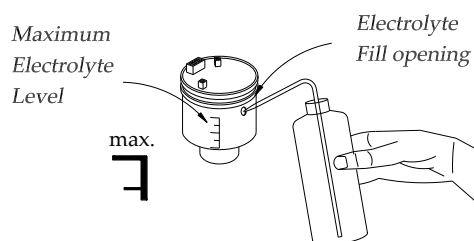
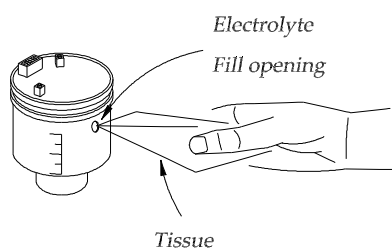

Fig. 4.2.11
Fig. 4.2.12
11. Holding the sensor with the membrane pointing downwards, pour fresh electrolyte from the dispenser bottle into the electrolyte supply opening until the electrolyte in the sensor reaches the 'MAX' level (fig. 4.2.11). If necessary, wipe clean the electrolyte supply opening with dry paper tissue (fig. 4.2.12).